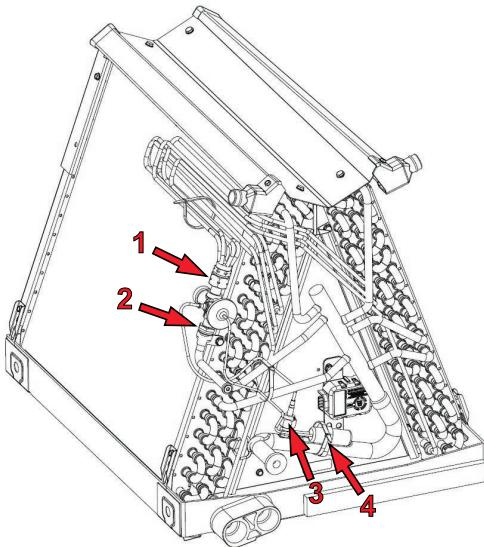

Fig. 15 – Mechanical TXV Removal
**NOTE:** For Item #1 (Fig. 15): Use an adjustable wrench with a backup adjustable wrench to loosen the brass nut (TXV outlet). Then use both wrenches to loosen Item # 2 (TXV inlet).